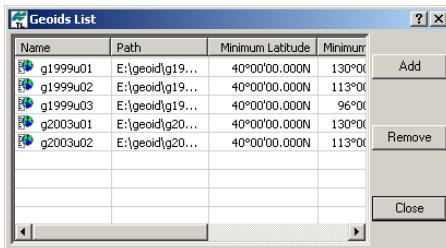

Figure 3-74. Geoids List
4. Click **Close** (Figure 3-74).